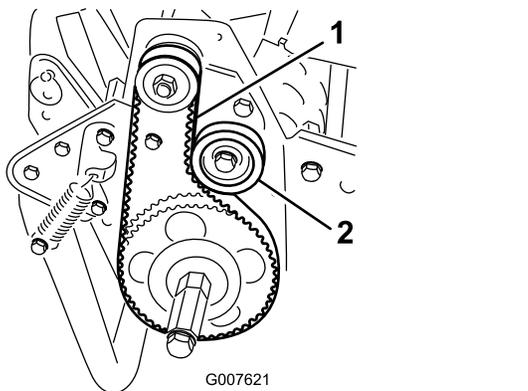

**Figure 43**
- 1. Remove the belt-cover mounting fasteners and the belt cover to expose the belt (Figure 43).